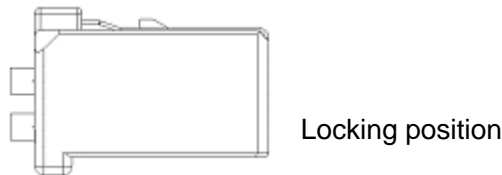

Fig.22
① Be sure to check that the retainer is in the locking position before mating the connector. (Fig.22)